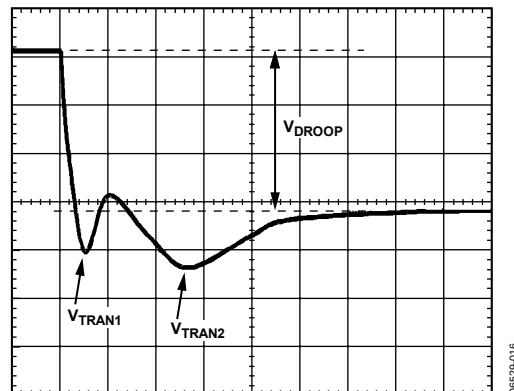
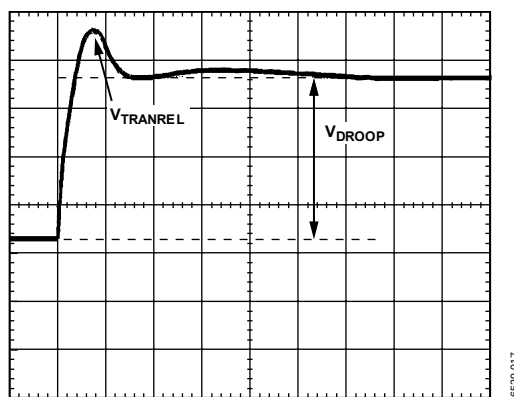

Figure 15. Transient Setting Waveform
Figure 16. Transient Setting Waveform
17. With the dynamic load still set at the maximum step size, expand the scope time scale to see 2 $\mu\text{s}/\text{div}$ to 5 $\mu\text{s}/\text{div}$. The waveform may have two overshoots and one minor undershoot (see Figure 15). Here, V_{DROOP} is the final desired value.
19. For load release (see Figure 16), if $V_{TRANREL}$ is larger than V_{TRAN1} (see Figure 15), there is not enough output capacitance. Either more capacitance is needed or the inductor values need to be smaller. If inductors are changed, start the design again using the spreadsheet and this tuning procedure.